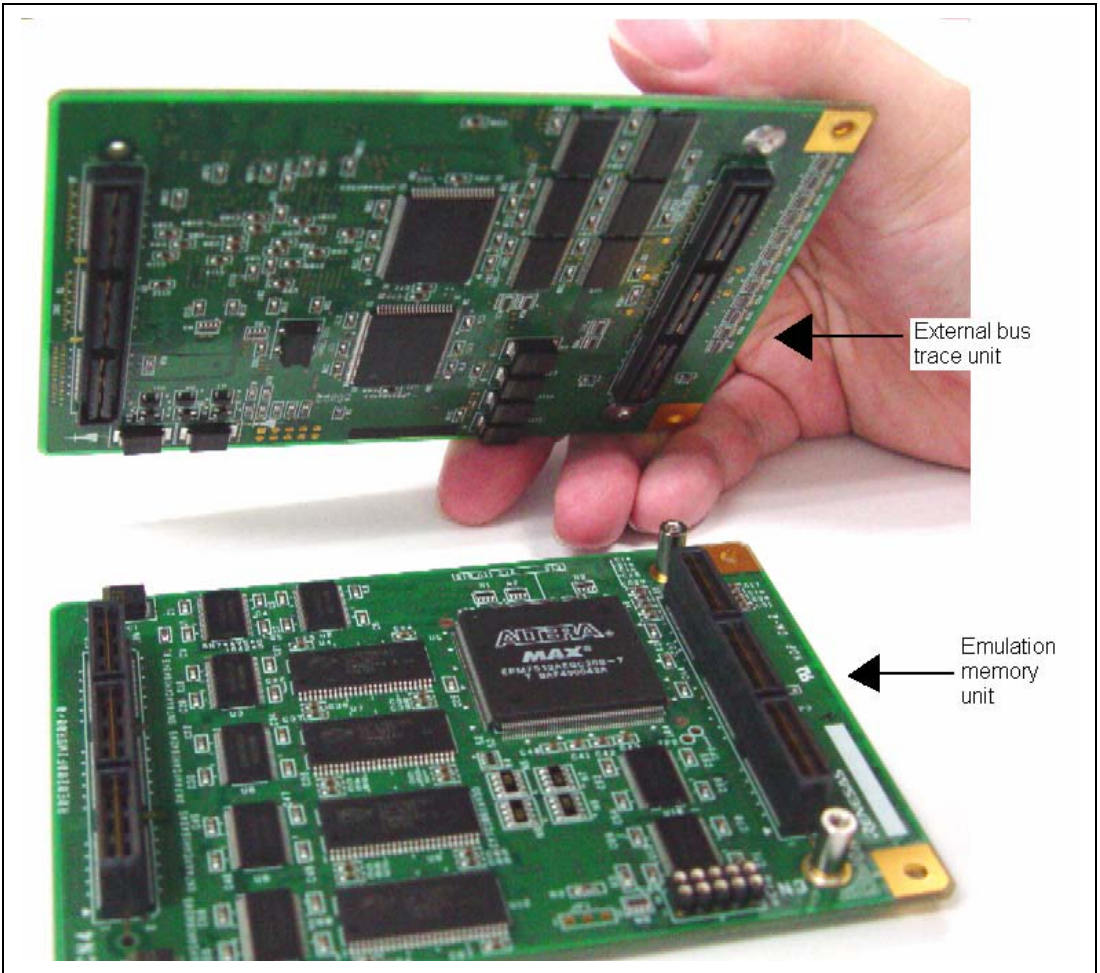

Figure 2.13 Connecting the External Bus Trace Unit to the Emulation Memory Unit
- When the external bus trace unit is used with the emulation memory unit, firstly connect the external bus trace unit to the emulation memory unit (figure 2.13) and then to the user system.